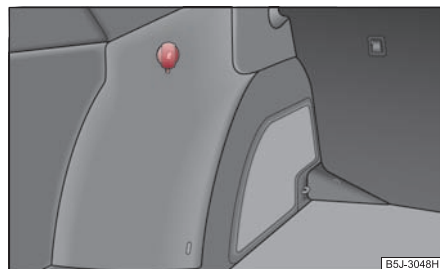

Fig. 106 Luggage compartment: Power socket
- Open the cover of the power socket ⇒ fig. 106.